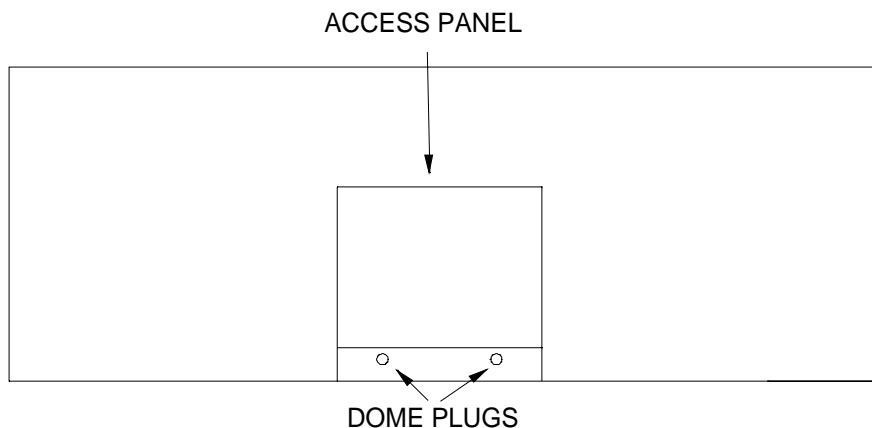

Figure 6 Rear Access Panel
1. Remove the rear access panel and the dome plugs on the plate below the access panel. Figure 6 shows the location of the rear access panel and the dome plugs.